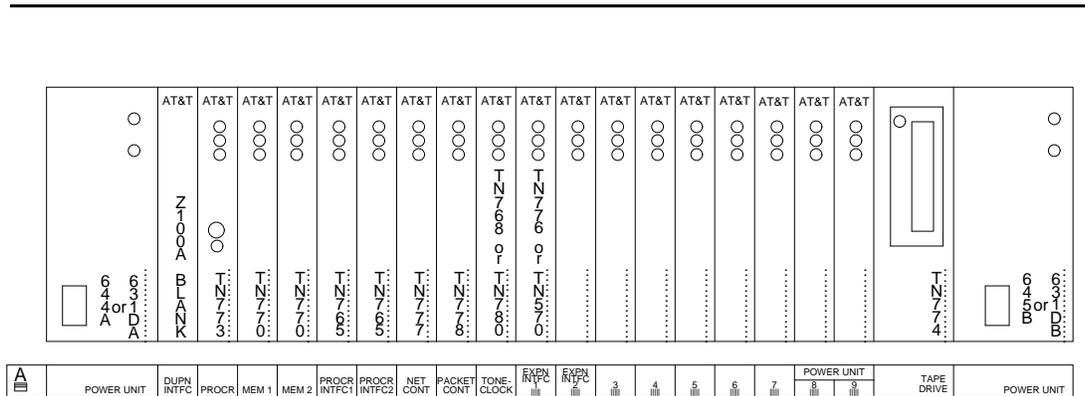

Figure 5-4. Circuit-Pack Locations in Simplex G3i V1 Control Carrier
2. See WARNING. At each control carrier, install the TN770 memory circuit pack in the “MEM 2” slot (see Figure 5-4).